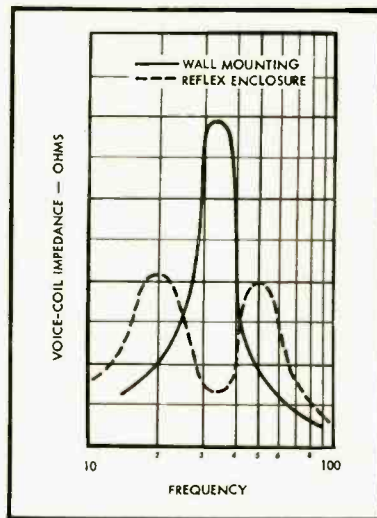

Fig. 14. Impedance curves of reflex enclosure vs. infinite baffle.
- (1) Reduction of cone velocity at resonance but an increased radiation efficiency around the frequency due to vent radiation.
- (2) Increased power handling capacity.
- (3) Improved transient response due to increased damping at resonance.
- (4) Reduced distortion due to reduced cone amplitude.
The resonances f_1 and f_2 are spaced either side of the cone resonance and are equal in amplitude. Impedance curves comparing similar speakers (A) on an infinite baffle and (B) in a reflex cabinet are shown in Fig. 14.